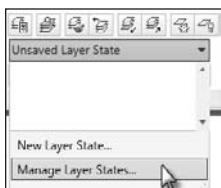

FIGURE 6.55 Accessing the Layer States Manager
4. On the Layers panel, click the Layer States drop-down list, which currently shows Unsaved Layer State, and click on Manage Layer States, as shown in Figure 6.55.